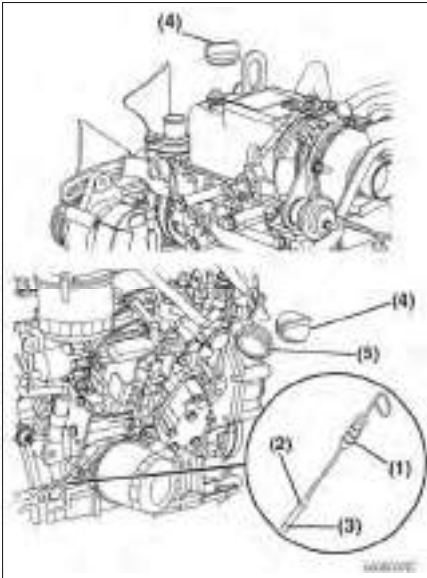

Figure 5-3
- Add engine oil (**Figure 5-3, (5)**) as needed until the level is between the upper (**Figure 5-3, (2)**) and lower lines (**Figure 5-3, (3)**) shown on the dipstick (**Figure 5-3, (1)**).
- Reinstall the oil filler cap (**Figure 5-3, (4)**). If any engine oil is spilled, wipe it away with a clean cloth.